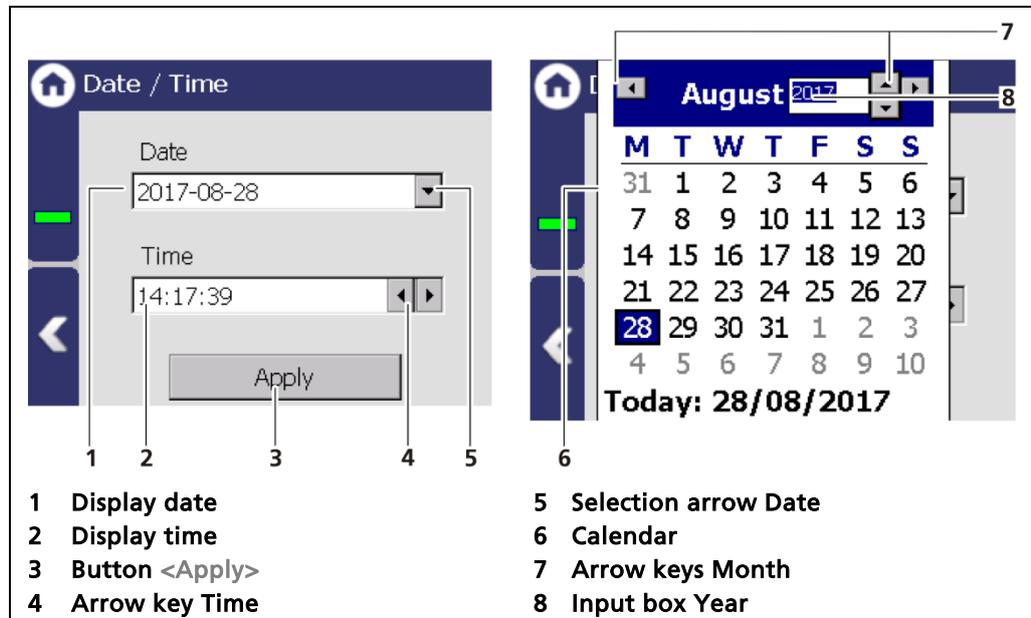

Fig. 46 Date / Time, Calendar
1. Click on the arrow key (Fig. 46, item 5) in order to set the date.
- ▶ The calendar is opened (Fig. 46, item 6).
2. Click on the year number (Fig. 46, item 8) in order to enter the year.
3. Set the month (Fig. 46, item 7) by clicking on the arrow keys.
5. Change the time by clicking on the arrow keys (Fig. 46, item 4).
6. Click on <Apply> (Fig. 46, item 3), to accept the date and time settings.